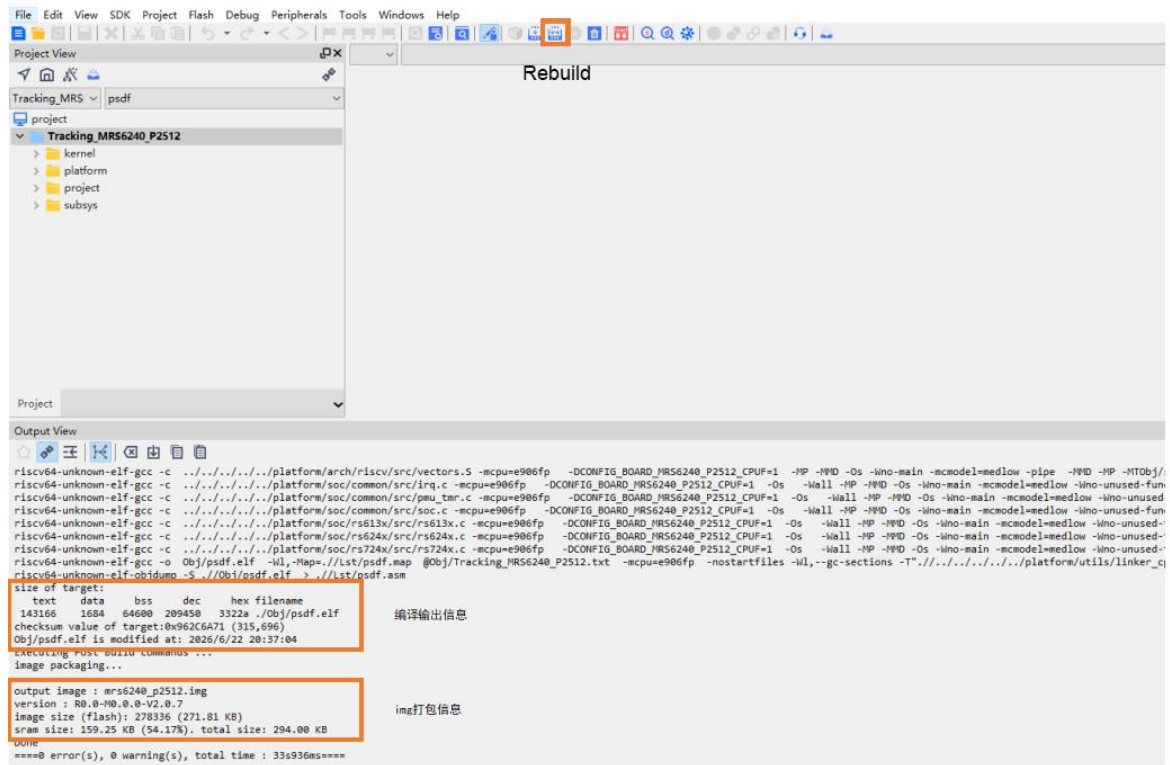

Figure 4-4 Rebuild Interface
3. Click Rebuild Project on the IDE toolbar to rebuild the project, as shown in Figure 4-4. Check the build output and IMG packaging output. The generated data is located in the output folder under the project-file (.cdkproj) directory.-